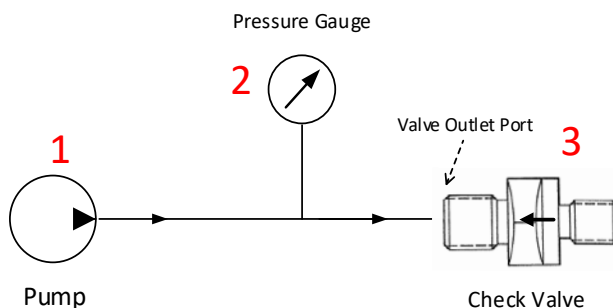

Figure 5: test setup Test Title 1 - 3(1)
(1) Internal Leakage:
- Test set up in accordance to Figure 5.